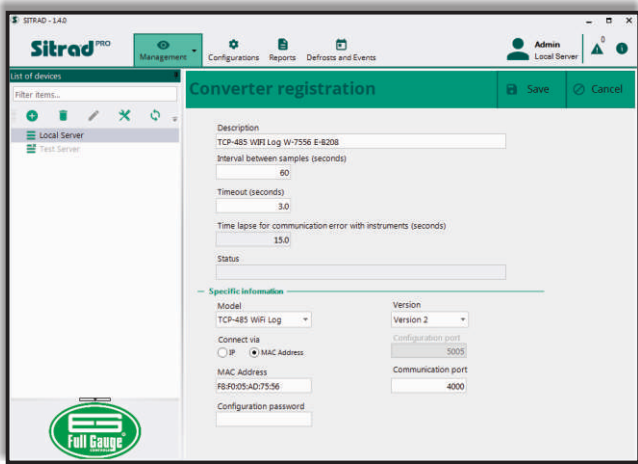

Figure 28
Step 4: Figure 28 shows the **Converter Registration** tab. Check the device data and edit if necessary. Sitrad^{pro} identifies the **TCP-485 WiFi Log** as **TCP-485 WiFi Log with Version 2**. The **"Connect via"** field defines whether Sitrad^{pro} will recognize the converter on the network by IP or MAC address. If the converter is configured in Client mode with dynamic IP, it is advisable to select the MAC Address option, as the device's IP may vary within the network. After configuring the desired parameters, click on the **Save** button to register the converter on the server.